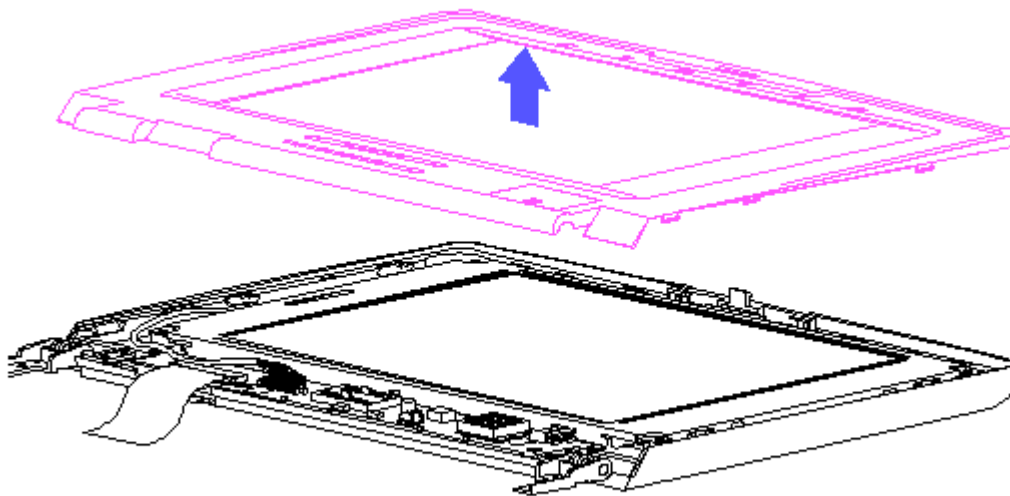

Figure 2-18. Removing the Display Bezel
4. Remove the display bezel from the display panel assembly by gently pulling the bezel frame and working from the bottom up (Figure 2-18).
1. Remove the display bezel (Figure 2-18).